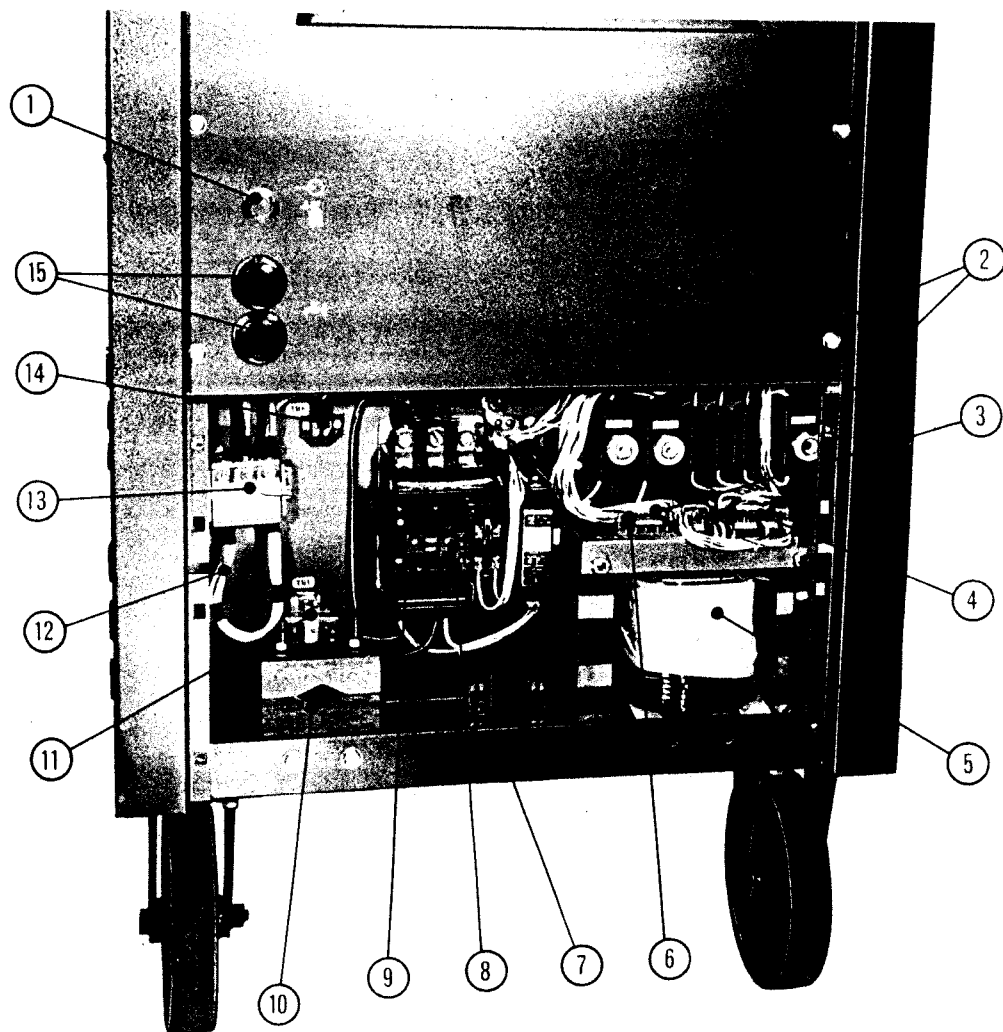

Fig. 3 Input Panel
5. Remove the contact covers from the main contactor (see Fig. 3) and examine the contacts. Clean or renew the contacts as necessary. Refit the contact covers.
7. Press and hold the plunger of main contactor MC1 (see Fig. 3) to close the contacts.